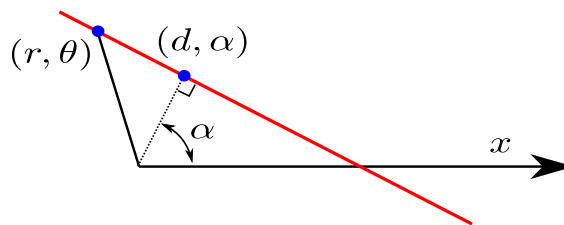

Figure 4.3: Representation of a line drawn a distance d from the origin.
32) Determine the equilibrium shape of a crystal. This should be done using a computer and your favorite program or language (most likely MATLAB). The equation of a straight line in polar coordinates drawn from the origin of the polar coordinate system is $r \cos(\theta - \alpha) = d$, where (r, θ) locate the points on the line, d is the perpendicular distance from the origin to the line and α is the angle between the perpendicular to the line and the x-axis (see Figure 4.3).